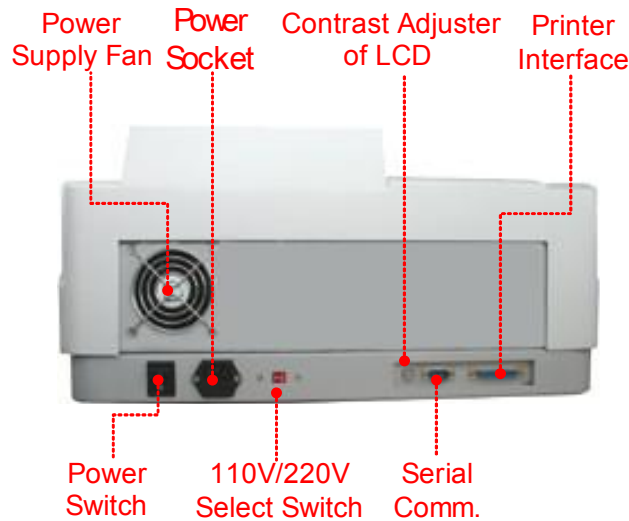

Fig 1
The UNICO SQ-2800 model spectrophotometer (Fig 1) is a single beam, general purpose instrument designed to meet the needs of the Conventional Laboratory, The UNICO SQ-2800 model spectrophotometer is ideal for various applications, such as: Chemistry, Biochemistry, Biotechnology, Petrochemistry, Environmental Protection, Food and Beverage Labs, Water and Waste Water Labs and other fields of quality control and research.
Turn on spectrophotometer by pressing the Power Switch (IO) (see Fig 1).